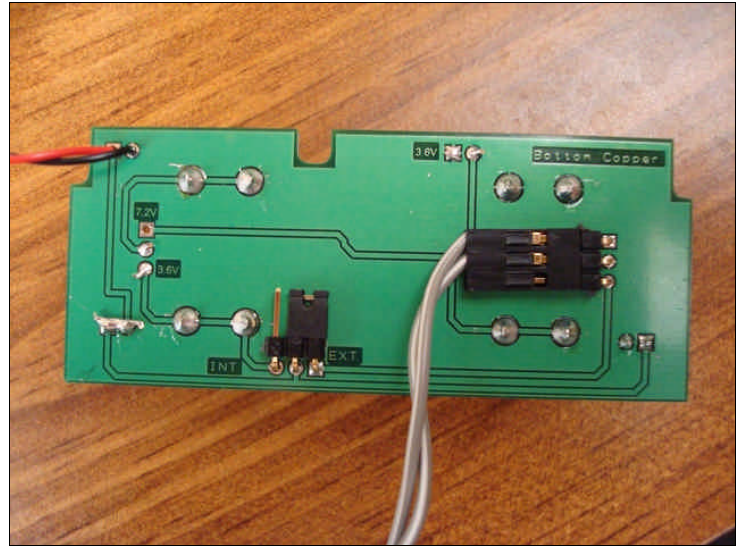
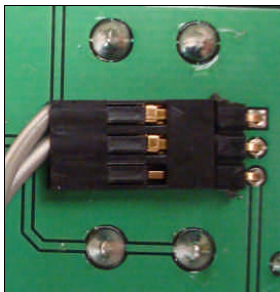
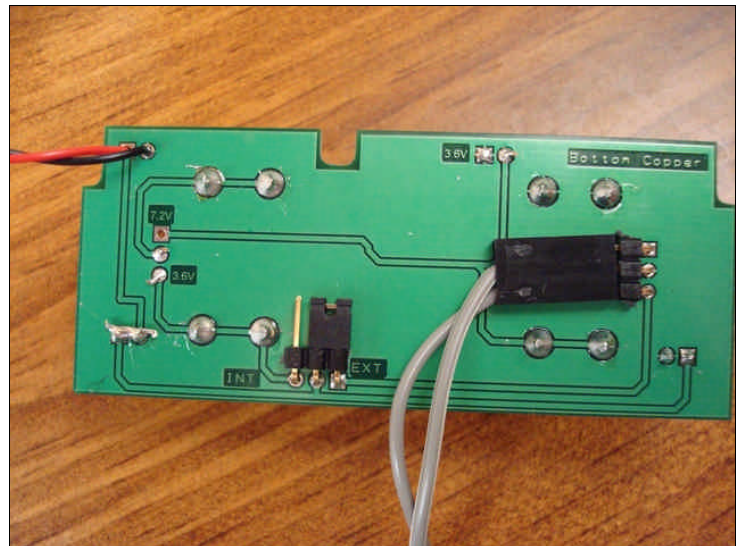

Figure 20a:
Figure 21a: Close-up of power supply connector in Figure 20a.
Figure 20b:
Changing the jumper from "INT" to "EXT" and connecting the power supply to the battery circuit board can be seen in **Figure 20a** and **Figure 20b**.
What is the difference between **Figure 20a** and **Figure 20b**? You will notice that the connector for the power supply has room for three wires, but there are only two wires in the black plastic connector. You will notice that the only difference between these two photos is that they show that this connector can be positioned in either direction. **Figure 21a** shows a close-up of the connector shown in **Figure 20a**. Similarly, **Figure**
**21b** shows a close-up of the connector shown in **Figure 20b**. You will notice that the connection in **Figure 20a** and **Figure 21a** shows no wire at the bottom of the connector. Further, you will notice that the connection in **Figure 20b** and **Figure 21b** shows no wire at the top of the connector. **Both connections are valid.**